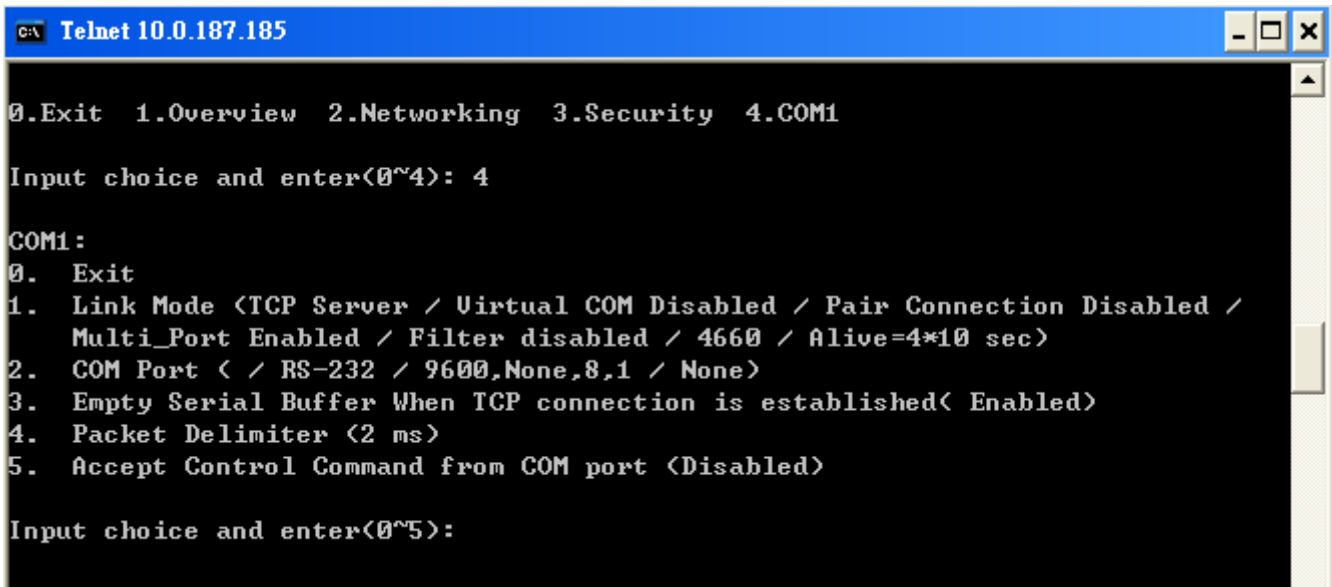

Figure 3.9 Com1 setup
- Select “4” from “Input choice and enter (0~4):” the following screen appears (Figure 3.9):